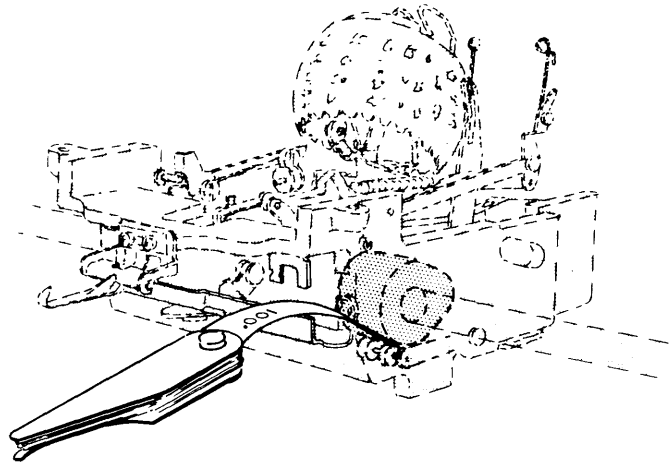

FIGURE 83. *Feeler Gauge Trapped*
- c. With the machine resting on its back, place a .001" or .002" feeler gauge between the print cam and the follower roller (Fig. 83). This can be accomplished by manually holding the rocker toward the platen while inserting the feeler gauge from the front of the carrier (to the right of the carrier pointer) just above the line lock bracket. With the gauge